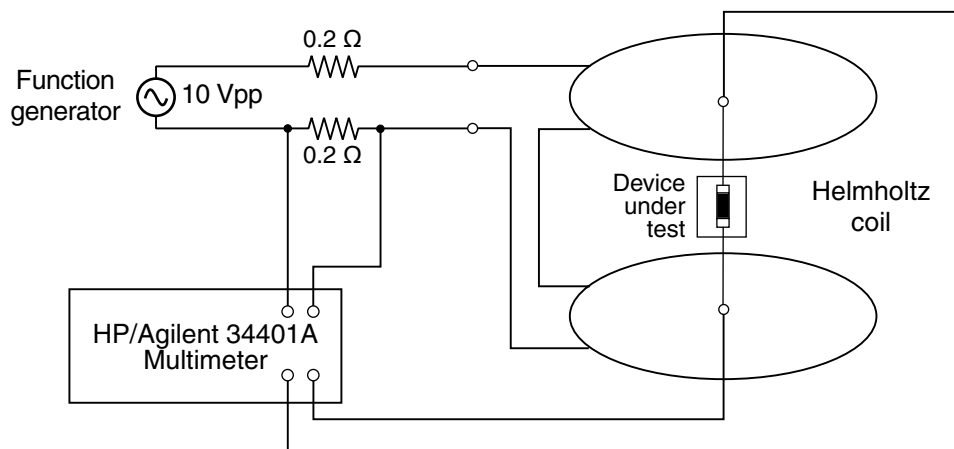

Figure 1. Test Setup for Measuring Transponder Coil Sensitivity
Refer to Figure 1 to set up the test equipment.
2. Orient the transponder coil in the Helmholtz coil as shown in Figure 1.